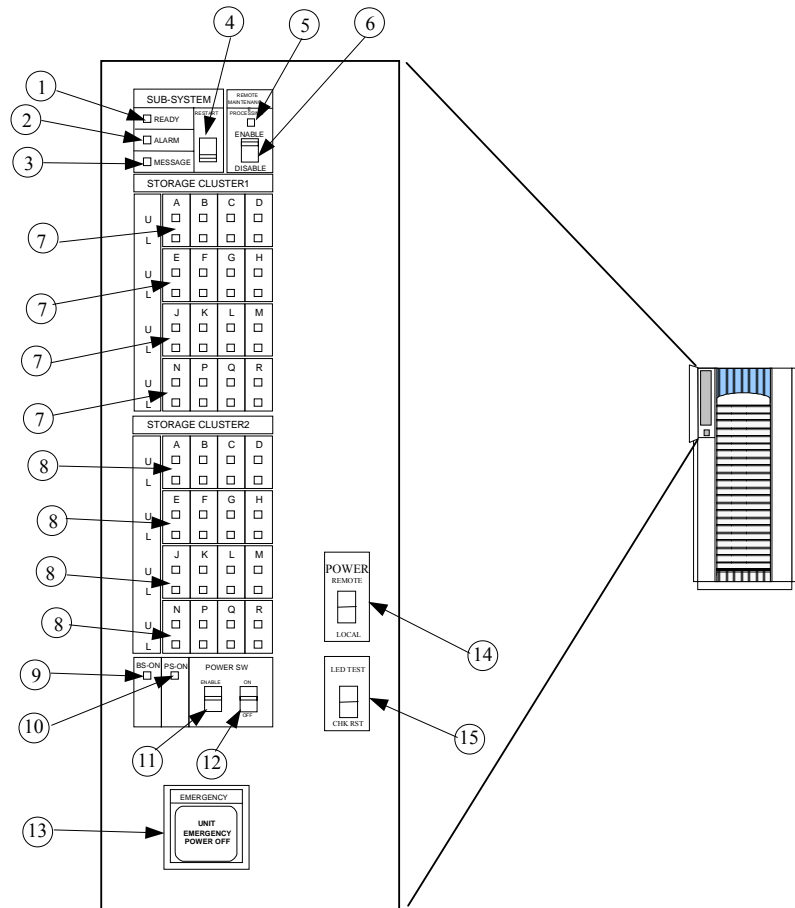

Figure 3. Control Panel
Figure 3 and Table 2 on page 32 show the control panel and its functions, respectively.
1. Move the ENABLE/DISABLE switch to the ENABLE position. Move the PWR ON/OFF switch to the PWR ON position (Figure 3 on page 31, items 11 & 12)
The BS-ON LED (Figure 3 on page 31, item 9) will turn amber and the PS ON LED (10, Figure 3 on page 31, item 10) will turn green.
The CHANNEL LED (Figure 3 on page 31, item 7) will light green for every adapter installed.
The MESSAGE LED (Figure 3 on page 31, item 3) may turn amber if your disk array is not configured for automatic maintenance notification, signifying a SIM was generated (because the disk array went down unexpectedly).
Finally, the Ready LED (Figure 3 on page 31, item 1) will light green when the system is ready, which may take up to 10 minutes, depending on the number of disks installed in your disk array.
Your disk array will automatically restart and return to service when power is restored. To enable this feature, place the ENABLE/DISABLE switch in the ENABLE position and the PWR ON/OFF switch in the PWR ON position (Figure 3 on page 31, items 11 & 12). When power is restored, your disk array will restart and the following LED sequence will occur: